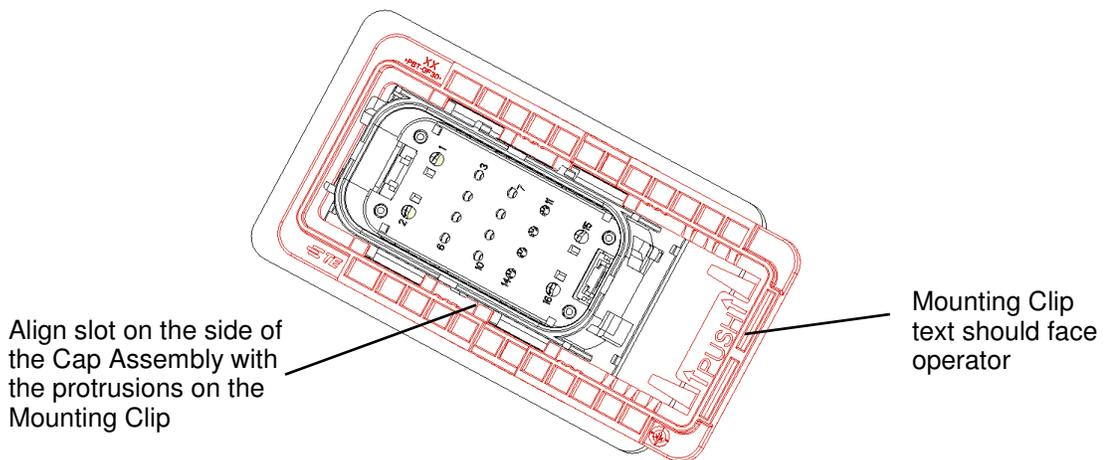
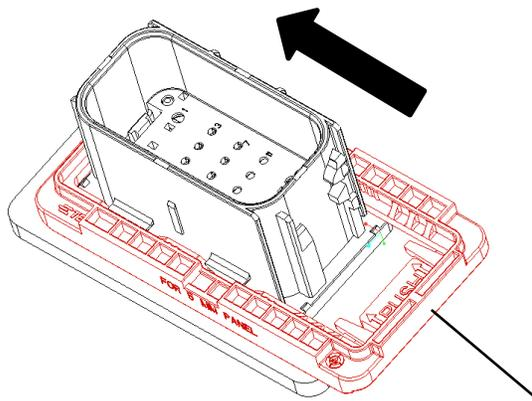

Figure 19
Figure 20
2. Holding the Cap Assembly in place, align the openings in the Mounting Clip with the ramps on the Cap Assembly. Insert the Mounting Clip, text facing the operator, over the Cap Assembly, Figure 19, and slide it to lock it in place, Figure 20. Ensure that the latches on the Mounting Clip engage the detents on the Cap Assembly, Figure 21. Depending on the customer's preference, the Mounting Clip can be inserted such that it can be pushed to either side to lock it in place. See Figure 22.